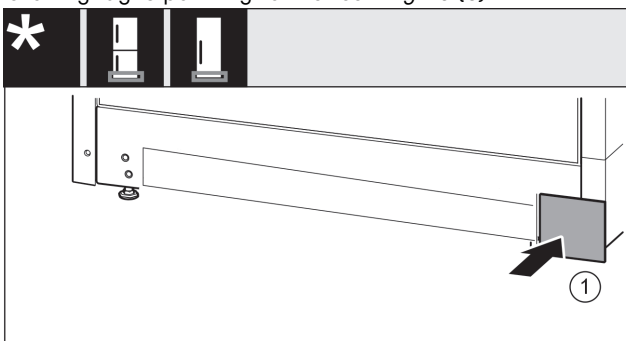

Fig. 14
- Put the cover back on the other side. Fig. 14 (1)